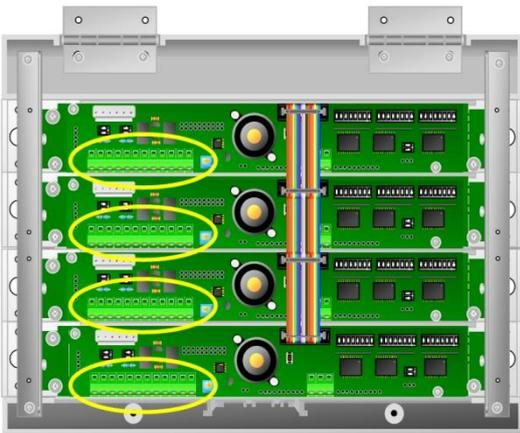

Figure 2.8 The location of screw terminal JA2 of the g-Smart Data Display Enhanced™ module.
**NOTICE** Both input channels of each module can accept either a voltage or a current input (but **NOT BOTH** at the same time) using the screw terminals of JA2 on the module's add-on daughterboard as shown in Figure 2.8 and Table 2.1.
- Step 2** Locate JA2 screw terminals on the add-on daughterboard of the module (see Figure 2.8).